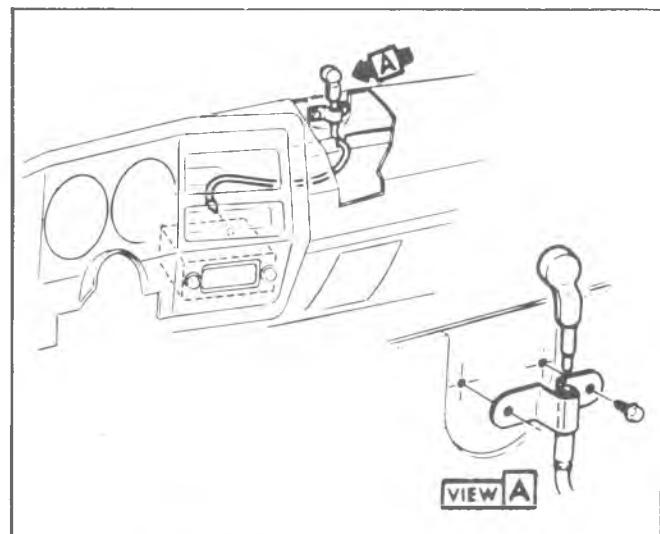

Fig. 5-Antenna Lead (C-K Models)
**ANTENNA****C-K Models (Fig. 5)****Antenna Replacement**